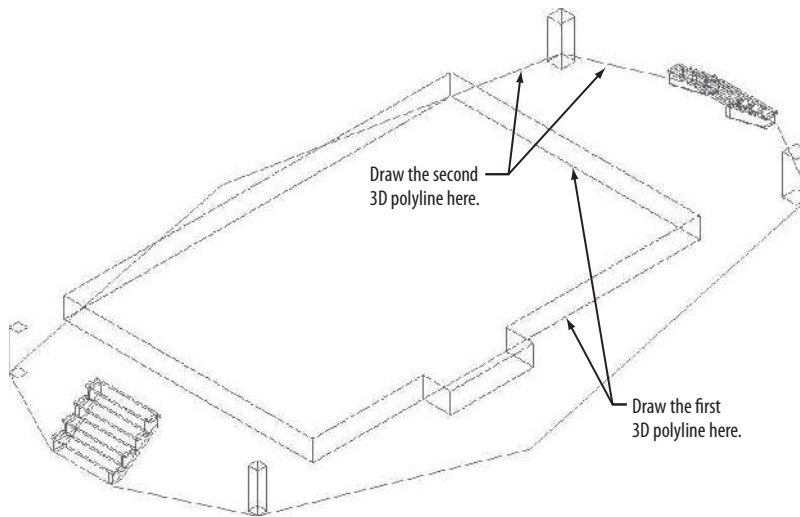

FIGURE 17.1: Draw the first two 3D polylines around the cabin.
4. Start the Rectangle (RECTANG) command, and draw a closed polyline around the perimeter of the base of the foundation, as shown in Figure 17.1.
6. Use the Polyline (PLINE) command to draw another closed polyline around the concrete support posts, snapping the outside corner of each, and the outside corners of the stringers (see Figure 17.1).